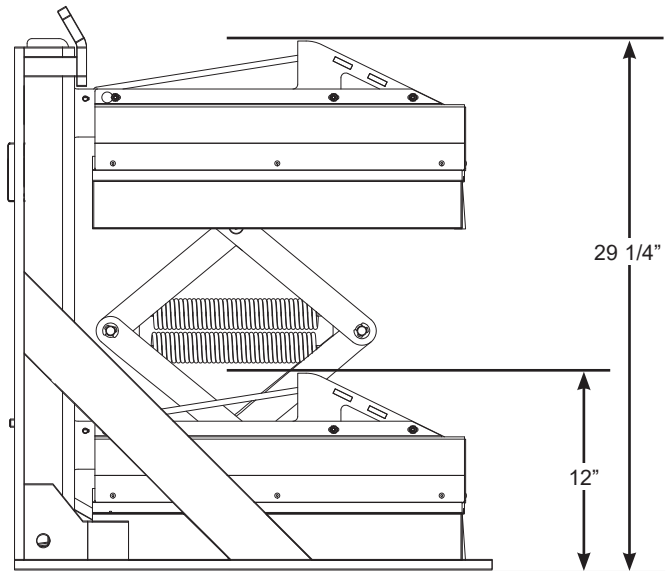

Figure 5
- All PowerStop models with the standard single level tall restraint hook have a service range of 12" to 29-1/4" (304.8 mm to 742.95 mm). See Figure 5.